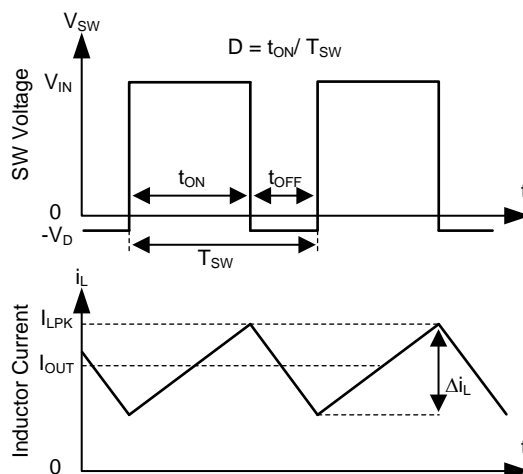

Figure 13. SW Node and Inductor Current Waveforms in Continuous Conduction Mode (CCM)
The following operating description of the LMR23630 refers to the *Functional Block Diagram* and to the waveforms in Figure 13. The LMR23630 is a step-down synchronous buck regulator with integrated high-side (HS) and low-side (LS) switches (synchronous rectifier). The LMR23630 supplies a regulated output voltage by turning on the HS and LS NMOS switches with controlled duty cycle. During high-side switch ON-time, the SW pin voltage swings up to approximately V_{IN} , and the inductor current i_L increase with linear slope $(V_{IN} - V_{OUT}) / L$. When the HS switch is turned off by the control logic, the LS switch is turned on after an anti-shoot-through dead time. Inductor current discharges through the LS switch with a slope of $-V_{OUT} / L$. The control parameter of a buck converter is defined as duty cycle $D = t_{ON} / T_{SW}$, where t_{ON} is the high-side switch ON-time and T_{SW} is the switching period. The regulator control loop maintains a constant output voltage by adjusting the duty cycle D . In an ideal buck converter, where losses are ignored, D is proportional to the output voltage and inversely proportional to the input voltage: $D = V_{OUT} / V_{IN}$.